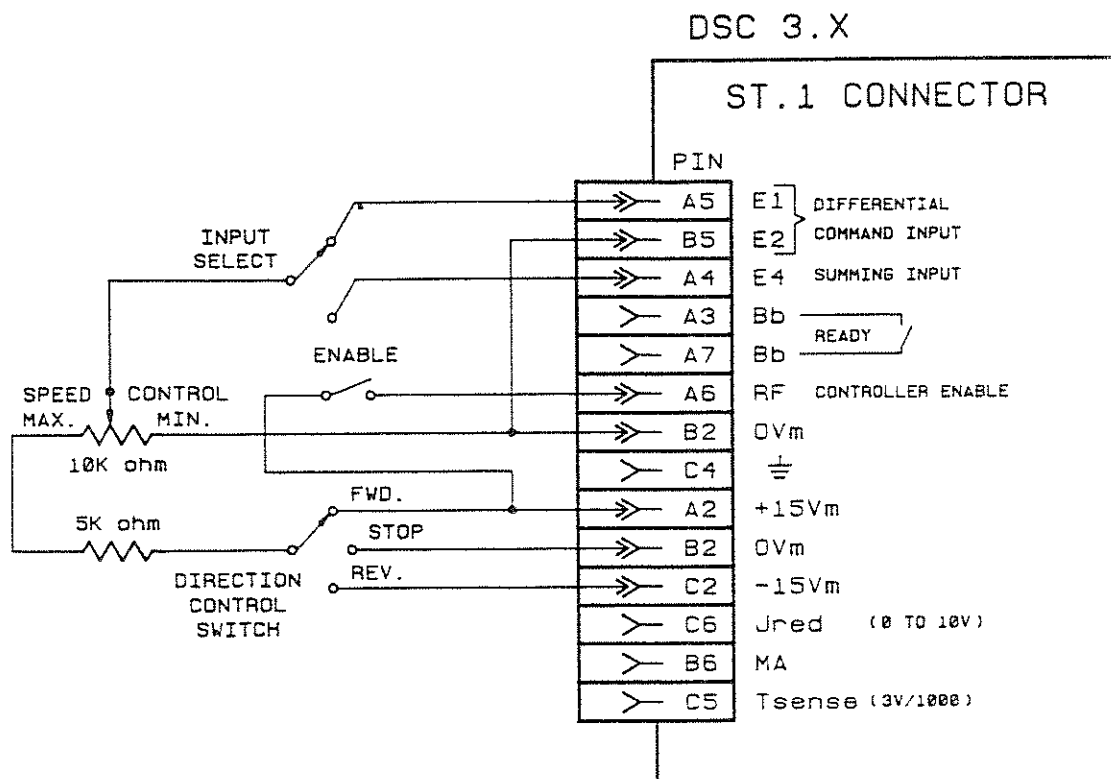

Figure 5-1. Simplified Battery Box
- * Battery box for adjustable command signals up to 10 Vdc and a switch for the controller enable signal. See Figure 5-1.
Connect the battery box as illustrated in Figure 5-1.